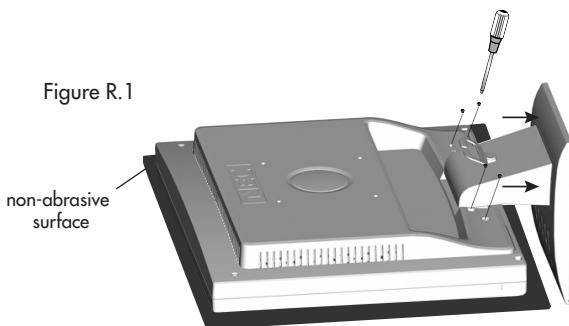

Figure R.1
2. Place monitor face down on a nonabrasive surface (**Figure R.1**).
3. Remove the 4 screws connecting the monitor to the stand and slide the stand off from the LCD (**Figure R.1**).